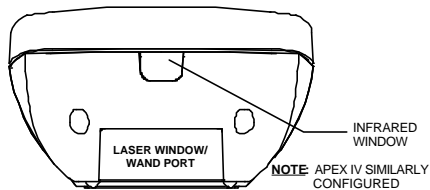

Figure 3-3: Apex III Infrared (IR) Window
An Infrared (IR) window located at the top of the Apex PDT (see Figure 3-3) provides a means of transmitting data via infrared light pulses to or from the optional Dock. Refer to the Optional Accessories section of this manual and contact Compsee, Inc. or your authorized Value Added Reseller (VAR) to find out more about this product.